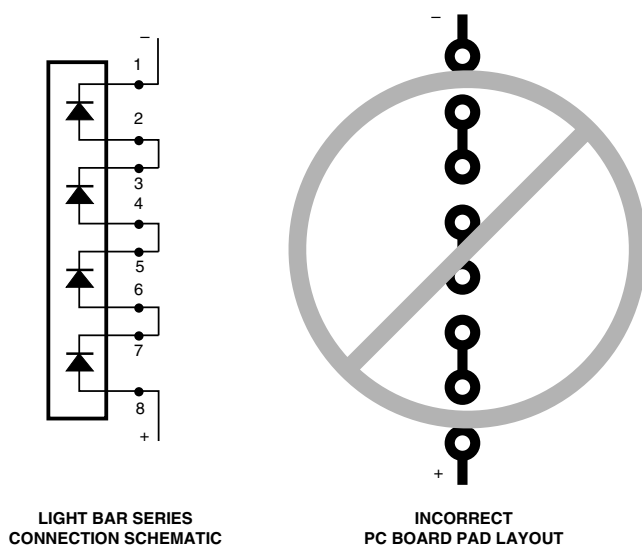

Figure 2. Trace Layout Contributes to Thermal Overstress of LEDs During Soldering
It is important to have a special trace layout on the printed circuit (PC) board connecting adjacent anode and cathode pins to prevent excessive thermal stress during soldering. Using a short interconnecting trace between adjacent anode and cathode leads is not recommended. A short interconnecting trace, as shown in Figure 2 for a four chip SIP light bar device, has the effect of allowing adjacent LED chips to be heated simultaneously during soldering. This simultaneous heating can cause excessive thermal stress on the LED chips, resulting in broken wire bonds and lifted die attach.